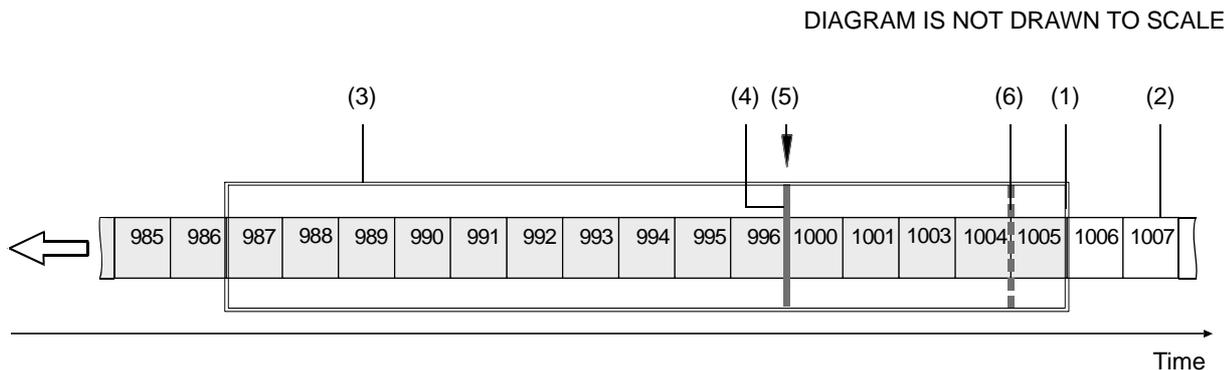

Fig. 135: Example of a Receive Window with Resend Request Threshold & Resend Request Batching Threshold
The threshold resend request mechanism is illustrated in Figure 135 where the following assumptions are made:
- (1) Front end of the receive window. Missing packets are detected here.
- (2) Stream of packets. Gray indicates that the status was checked as the packet entered the receive window. White indicates that the status has not yet been checked.
- (3) Receive window of the performance driver.
- (4) Threshold for sending resend requests (resend request threshold).
- (5) A separate resend request is sent for each packets 997, 998, and 999.
- (6) Threshold for batching resend requests for consecutive missing packets (resend request batching threshold). Only one resend request will be sent for the consecutive missing packets.
**ResendRequestThreshold** - This parameter determines the location of the resend request threshold within the receive window as shown in Figure 135. The parameter value is in per cent of the width of the receive window. In Figure 135 the resend request threshold is set at 33.33% of the width of the receive window.
A stream of packets advances packet by packet beyond the resend request threshold (i.e. to the left of the resend request threshold in Figure 135). As soon as the position where a packet is missing advances beyond the resend request threshold, a resend request is sent for the missing packet.
In the example shown in Figure 135, packets 987 to 1005 are within the receive window and packets 997 to 999 and 1002 were detected as missing. In the situation shown, a resend request is sent to the camera for each of the missing consecutive packets 997 to 999. The resend requests are sent after packet 996 - the last packet of the intact sequence of packets - has advanced beyond the resend request threshold and before packet 1000 - the next packet in the stream of packets - can advance beyond the resend request threshold. Similarly, a resend request will be sent for missing packet 1002 after packet 1001 has advanced beyond the resend request threshold and before packet 1003 can advance beyond the resend request threshold.
**ResendRequestBatching** - This parameter determines the location of the resend request batching threshold in the receive window (Figure 135). The parameter value is in per cent of a span that starts with the resend request threshold and ends with the front end of the receive window. The maximum allowed parameter value is 100. In Figure 135 the resend request batching threshold is set at 80% of the span.
If the ResendRequestBatching parameter is set to 0, no batching will occur and a resend request will be sent for each single missing packet. For other settings, consider an example: Suppose the Resend Request Batching parameter is set to 80 referring to a span between the resend request threshold and the front end of the receive window that can hold five packets (Figure 135). In this case 4 packets ( $5 \times 80\%$ ) will fit into the span between the resend request threshold and the resend request batching threshold. Accordingly, the maximum number of consecutive missing packets that can be batched is 5 ( $4 + 1$ ).